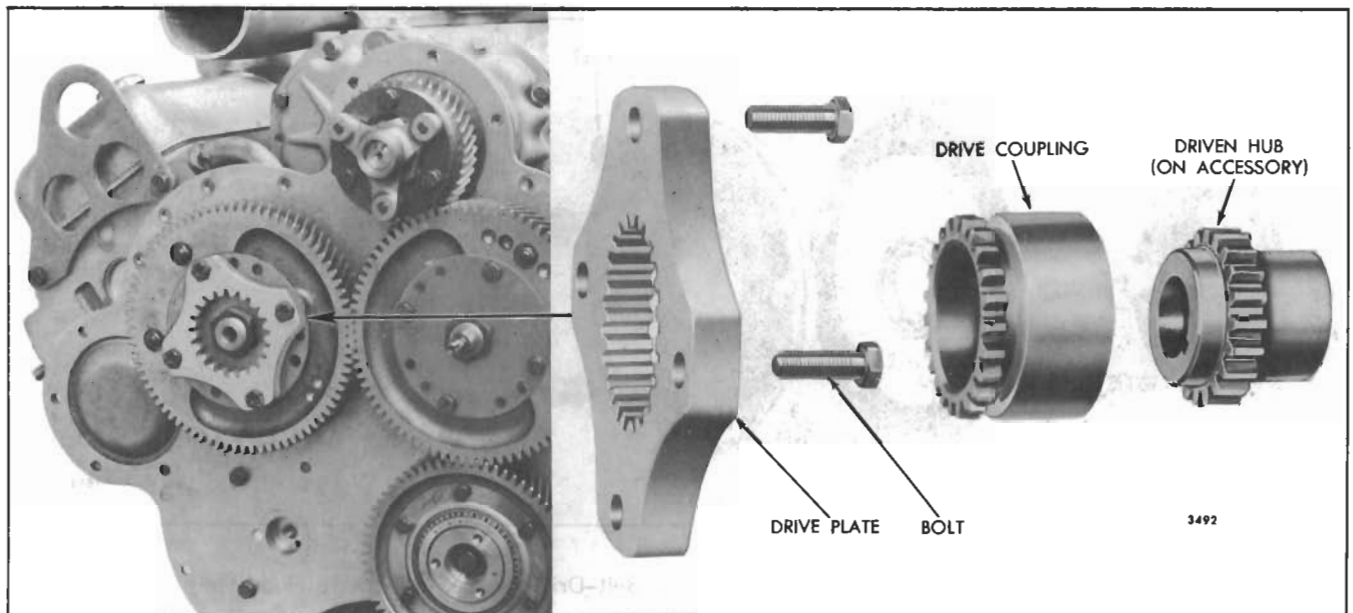

Fig. 3 - Components of Accessory Drive for Direct-Driven Accessories
A direct-driven accessory is flange-mounted on the flywheel housing and is driven by a coupling which is splined to both the accessory drive plate and a drive hub on the accessory shaft (Fig. 3).
Refer to Fig. 3 and remove the accessory drive used with a direct-drive accessory as follows:
drive shaft shown in Fig. 3. *Shielded bearings must not be washed; dirt may be washed in and the cleaning fluid could not be entirely removed from the bearing.* Wipe the outside of the bearing clean, then hold the inner race and revolve the outer race slowly by hand. If the bearing is worn or does not roll freely, replace the bearing.
If an accessory drive plate is used, refer to Figs. 3 and 4 and proceed as follows:
2. If a gear-driven accessory is used, install the drive coupling (Fig. 3) and proceed as follows: